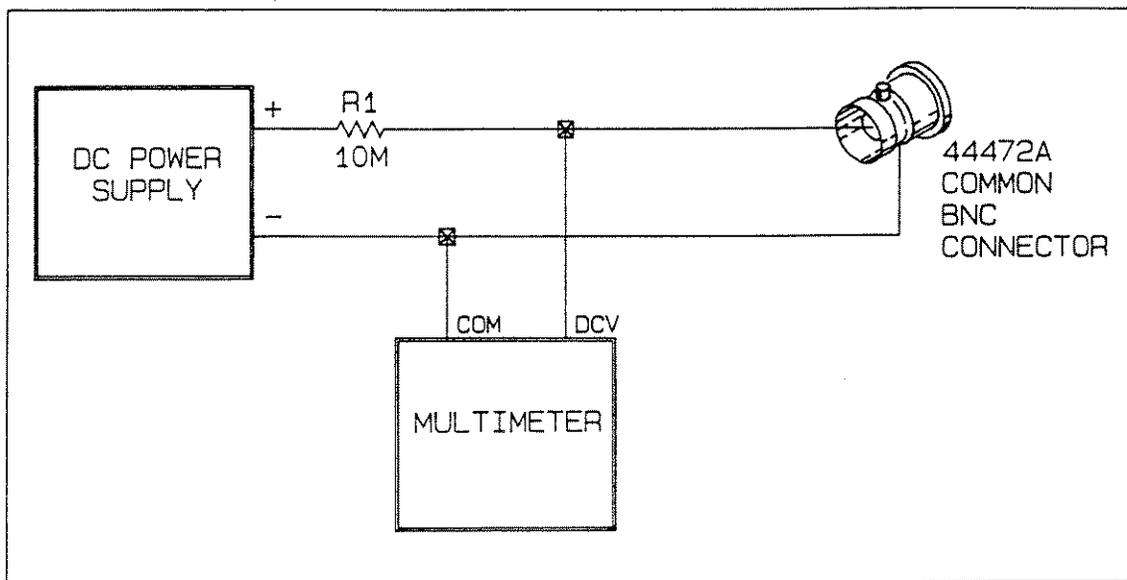

Figure 10-5 High To Low DC Isolation
19. Connect the COM 0 connector the test circuit as shown in Figure 10-5.